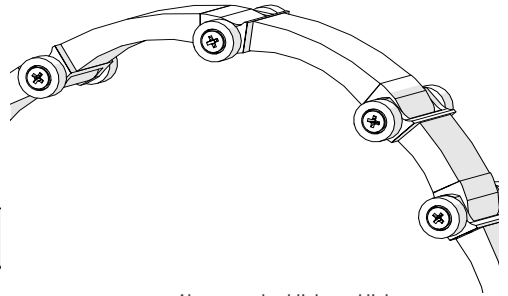

Fig. 102 - Alternate wheel links and links
2. Alternate wheel links and links ensuring links are always separated by a wheel link (Fig. 102).